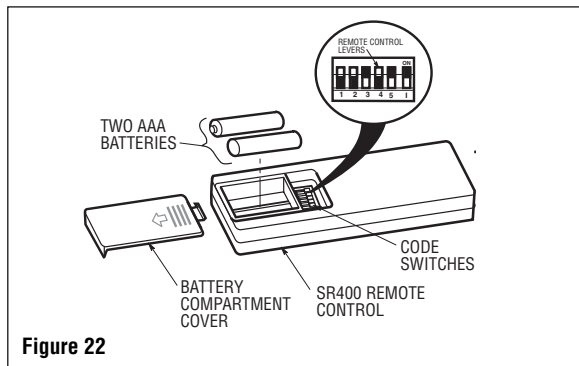

Figure 22
1. Remove the battery cover by pressing firmly below the arrow and sliding the cover off the control (Figure 22).